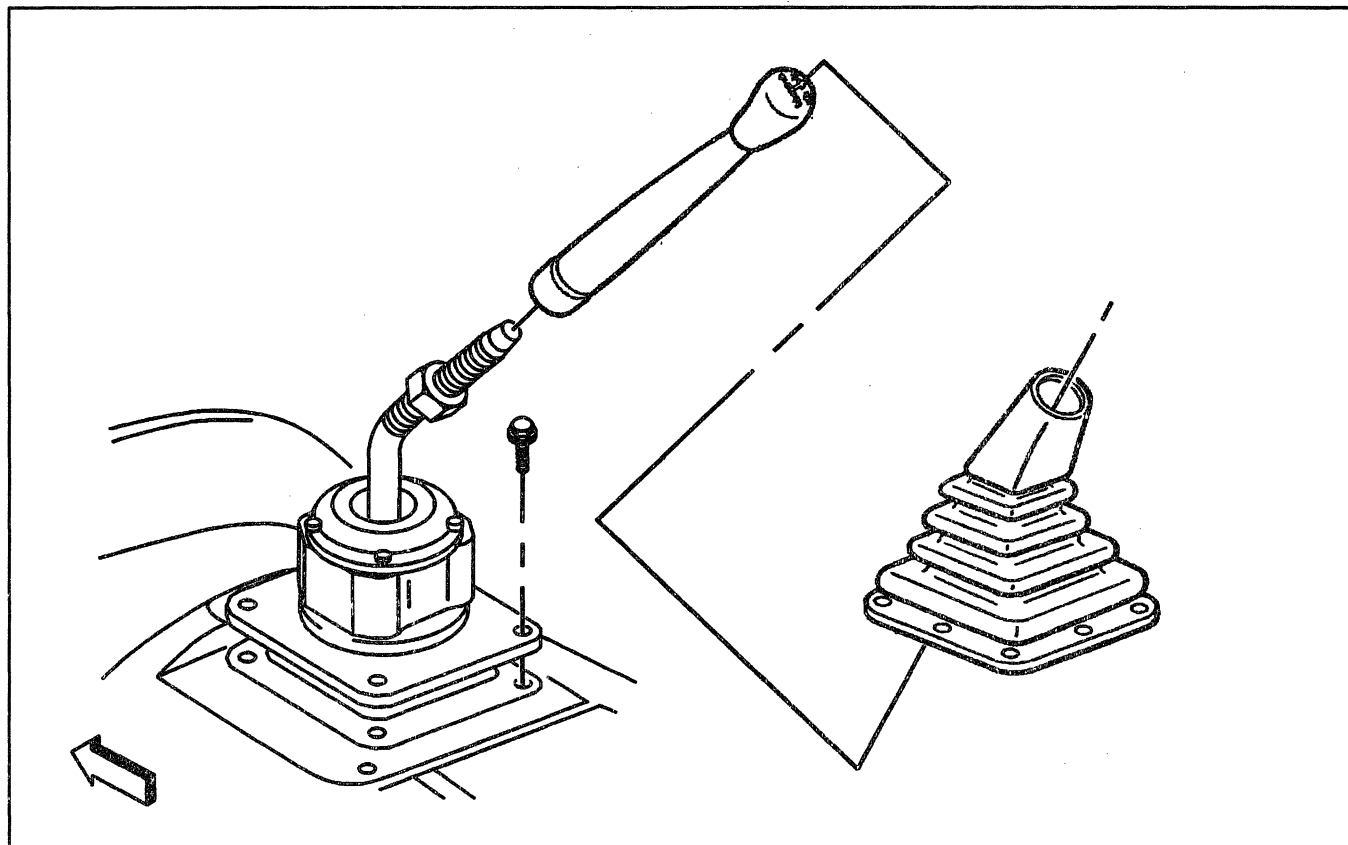

Figure 1—Shift Lever and Boot
Remove or Disconnect (Figures 1 and 2)
1. Eight screws securing shift tower boot to the floor panel and insulator (Figure 1 or 2).
Install or Connect (Figure 1)
1. Shift lever to the transmission shift tower lever (Figure 1).